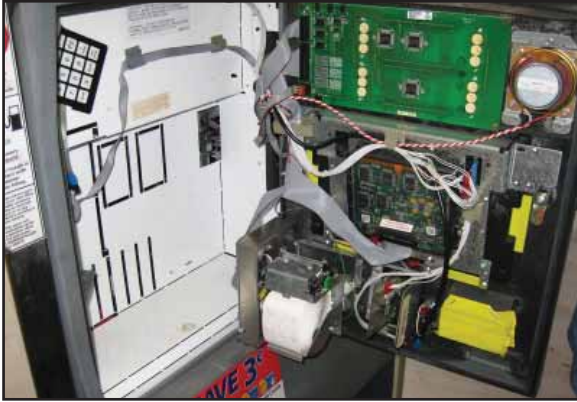

Figure 1: Open Doors
48. Tighten the three bolts at the bottom of each main door assembly. See figure 1.